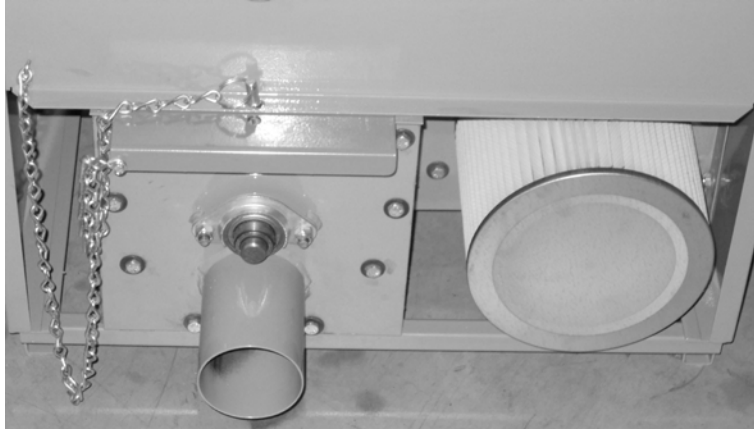

Figure 1
- 1) Clogged filters (Figure 1, right)